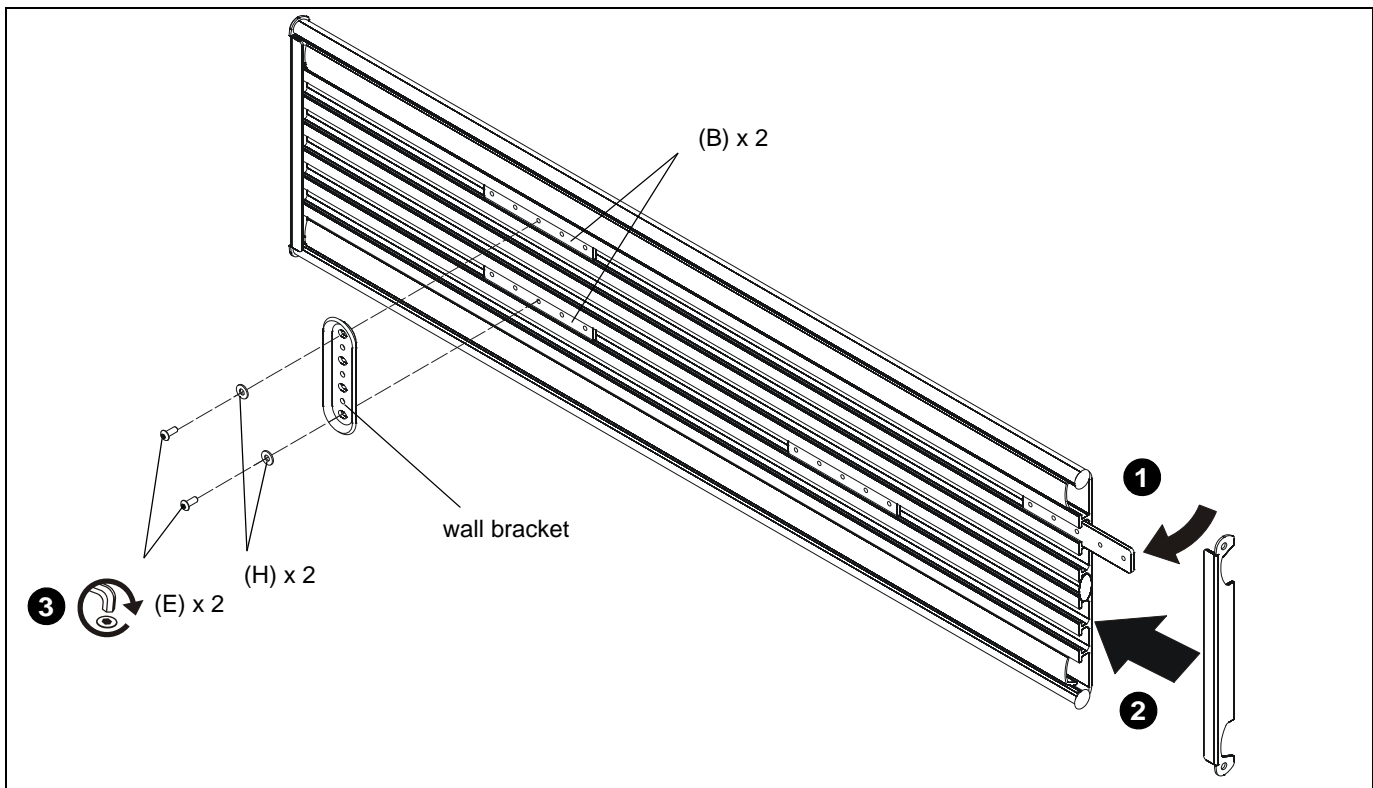

Figure 21
1. Remove side cover to slide locking plate brackets (B) into wall track accessory (A) at the desired mounting location. (See Figure 21)
2. Reinstall side cover to wall track accessory after all locking plate brackets have been inserted. (See Figure 21)
3. Use hex key (J) to install #10 button head cap screws (E) through #10 washers (H) and wall plate (not included) into center holes of locking plate brackets (B). (See Figure 21)